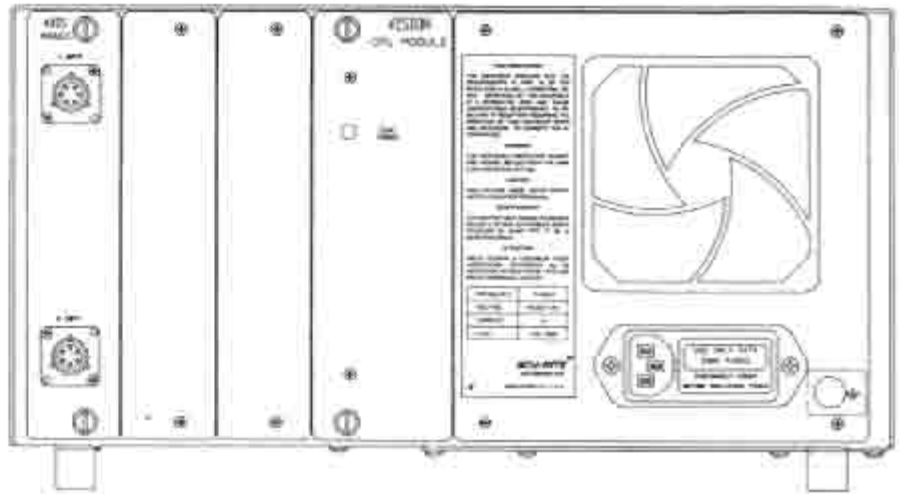

Figure 3. Rear Panel.
- 2) Remove the two screws and cover plate from the desired module slot on the back of MILLVISION (Figure 3).